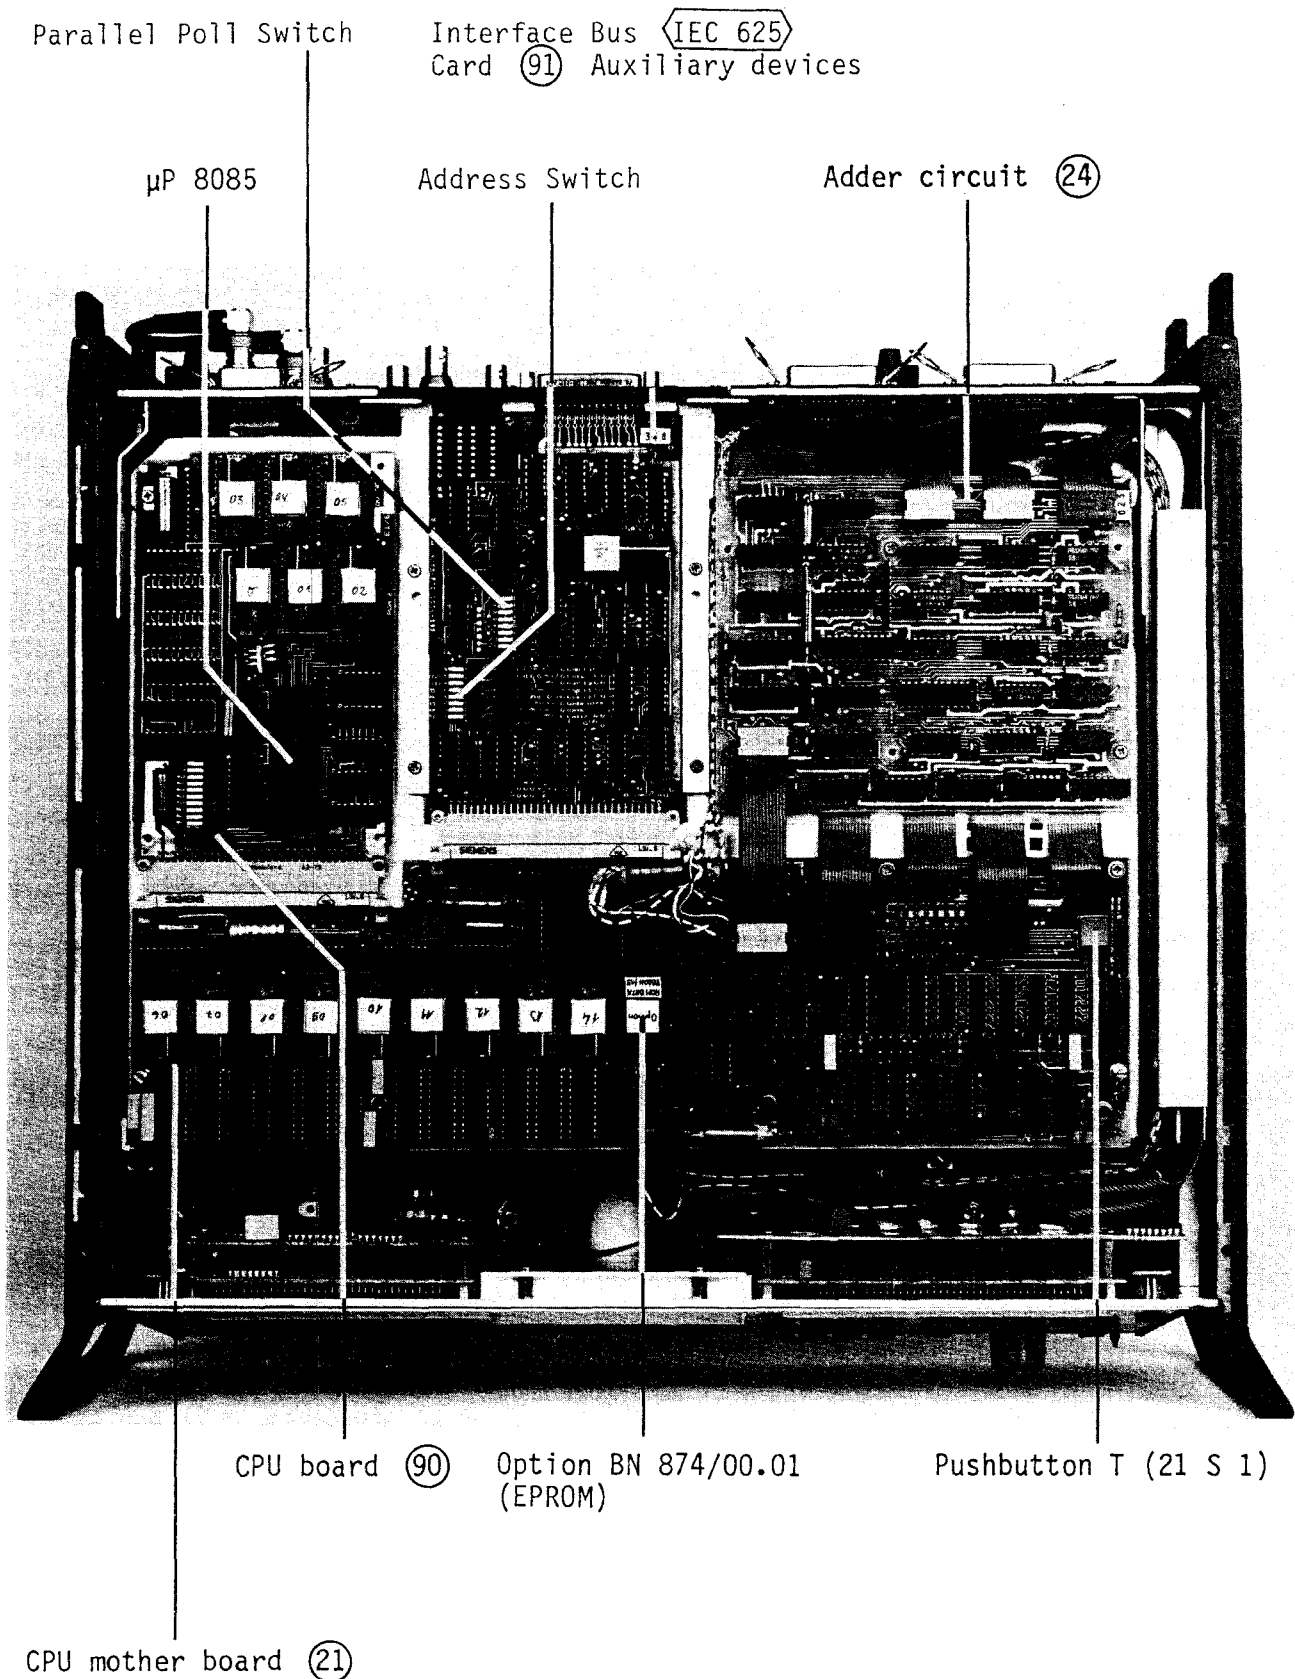

Figure 6-2 Upper side of the upper folding chassis
Figure 6-2 shows details of the components in the upper folding chassis after removal of the equipment cover. Amongst other things, the microprocessor (INTEL 8085) and the free positions for the optional
3. Touch the SPM-16 (reference potential) with one hand, remove the MOS module from its packing material with the other hand (holding it at the ends), and insert it in the position shown in Figure 6-2. The module is oriented correctly if the inscription is in the same direction as on the other EPROMs.